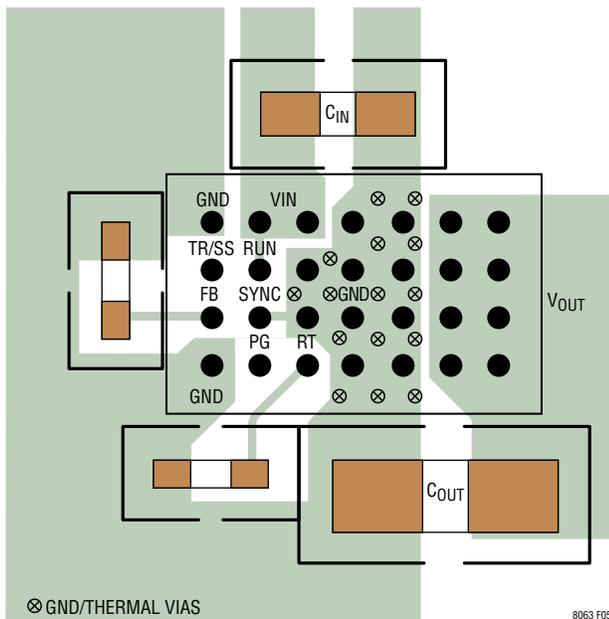

Figure 5. Layout Showing Suggested External Components, GND Plane and Thermal Vias
Most of the headaches associated with PCB layout have been alleviated or even eliminated by the high level of integration of the LTM8063. The LTM8063 is nevertheless a switching power supply, and care must be taken to minimize EMI and ensure proper operation. Even with the high level of integration, you may fail to achieve specified operation with a haphazard or poor layout. See Figure 5 for a suggested layout. Ensure that the grounding and heat sinking are acceptable.
- Use vias to connect the GND copper area to the board's internal ground planes. Liberally distribute these GND vias to provide both a good ground connection and thermal path to the internal planes of the printed circuit board. Pay attention to the location and density of the thermal vias in Figure 5. The LTM8063 can benefit from the heat-sinking afforded by vias that connect to internal GND planes at these locations, due to their proximity to internal power handling components. The optimum number of thermal vias depends upon the printed circuit board design. For example, a board might use very small via holes. It should employ more thermal vias than a board that uses larger holes.